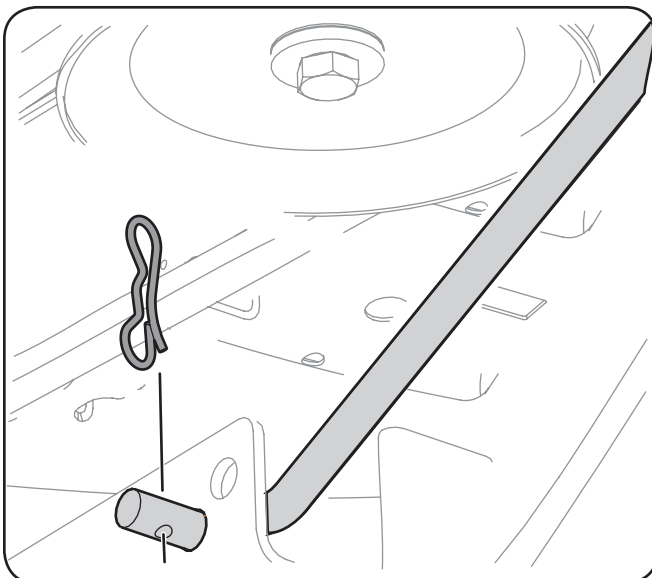

Figure 7-3
9. Pull the cotter pin out of the front deck lift rod securing it to the deck. See Figure 7-3. Slide the deck lift rod out of the front hanger bracket.